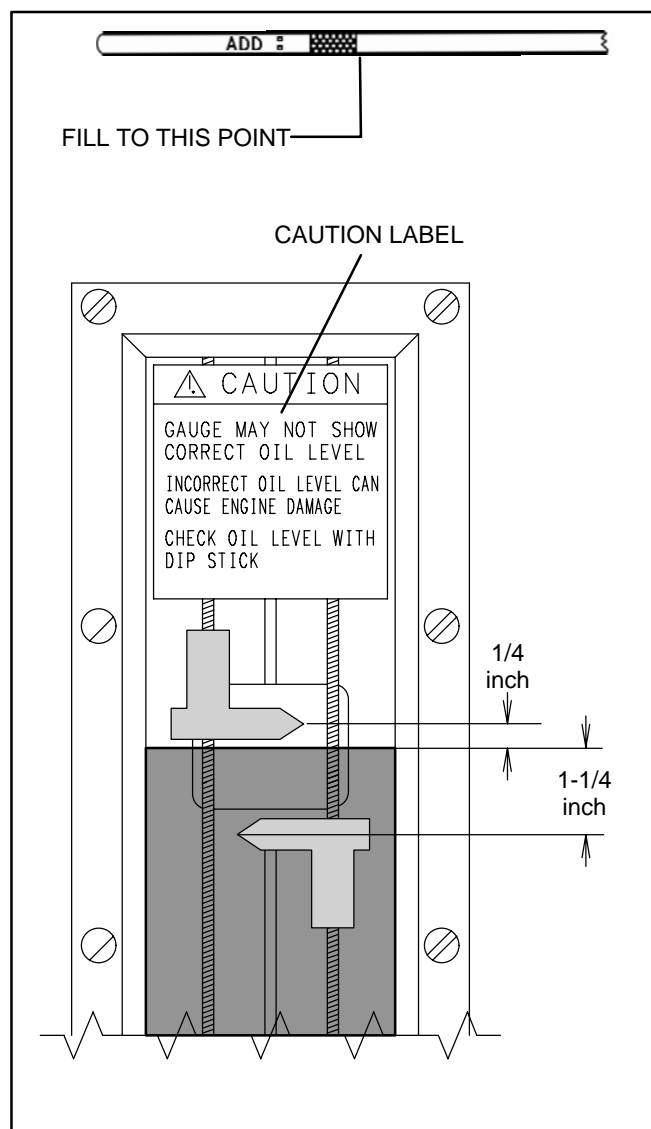

FIGURE 7-4. ADJUSTING OIL LEVEL GAUGE
1. Add or drain oil as necessary so that the level indicated on the dip stick is as illustrated in Figure 7-4.